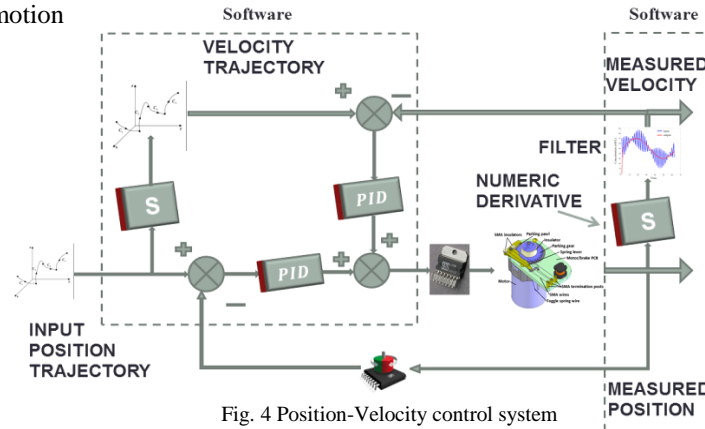

Fig. 4 Position-Velocity control system
- The applied system architecture is shown in fig. 4